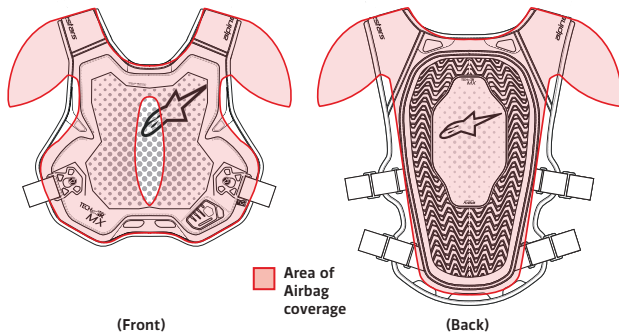

Figure 3 – Area of Airbag (11) coverage
The System is equipped with an Airbag (11) that covers the areas shown in Figure 3, protecting the motorcycle User who's wearing the System in the event of an accident or other triggering events. There are limitations to the protection that the System can provide as explained later in this User Manual (Section 4, "Limitations of Use").
WARNING! The System provides only limited impact protection against forces in the Airbag (11) coverage areas or outside the areas covered by passive protectors as depicted in Figure 3. No guarantee is given that the System will prevent injuries (including severe or fatal injuries) inside and/or outside the areas of Airbag (11) coverage or the Envelope of Protection.